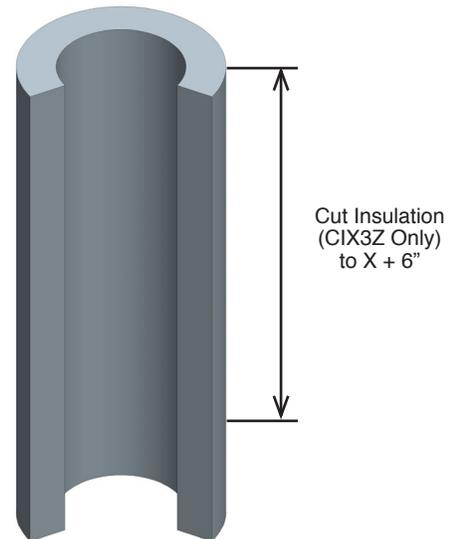

Figure 26c - Step 4 - Cut of the Insulation
4. Then cut the insulation band at dimension X + 6" (CIX3Z only). See **Figure 26c**.